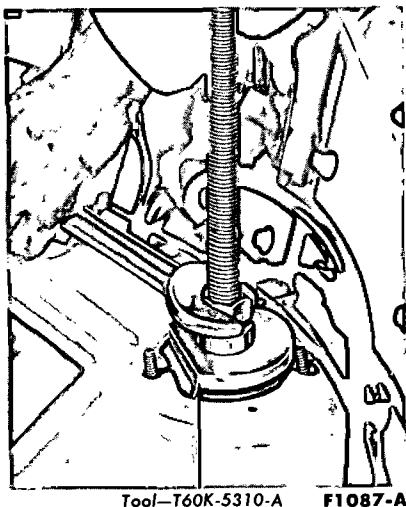

FIG. 5—Removing Coil Spring
6. Install the tool shown (Fig. 5) through the top of the spring housing so that the tool lower studs fit into the shock absorber lower mounting holes, and secure the tool to the spring seat with two nuts.
6. Loosen the spring removal tool nut until the spring is properly seated, and then remove the tool (Fig. 5).